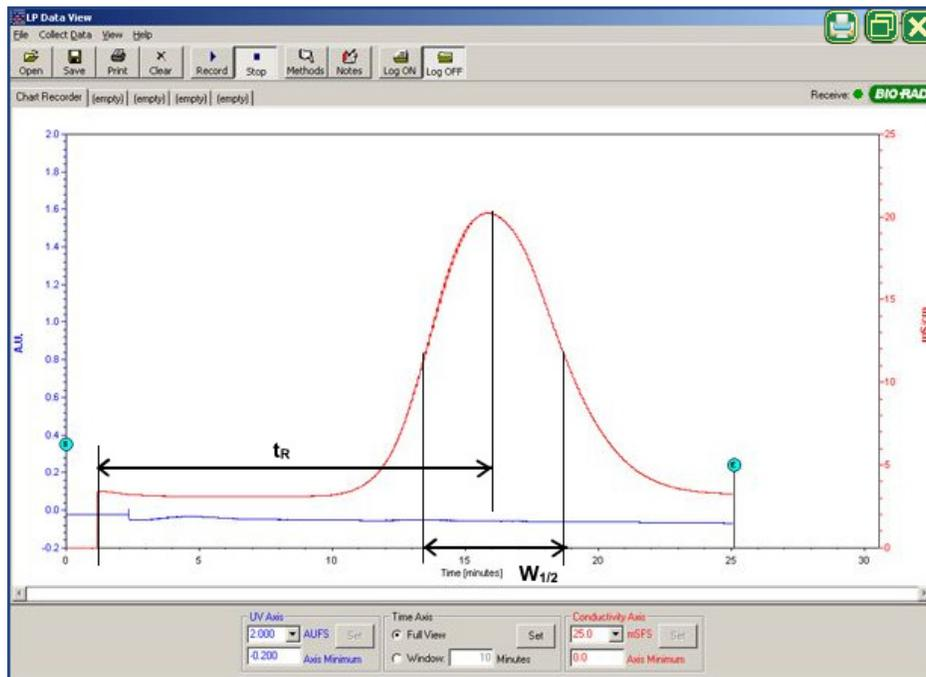

Figure 5: Chromatogram Example for Calculating HETP
- $h = \text{HETP}/D_p$Refer to Definitions (section 5) and Figure 5 as needed to complete the calculations. Refer to the process SOP for the D_p value.
- 9.5. Figure 5: Chromatogram example for calculating HETP